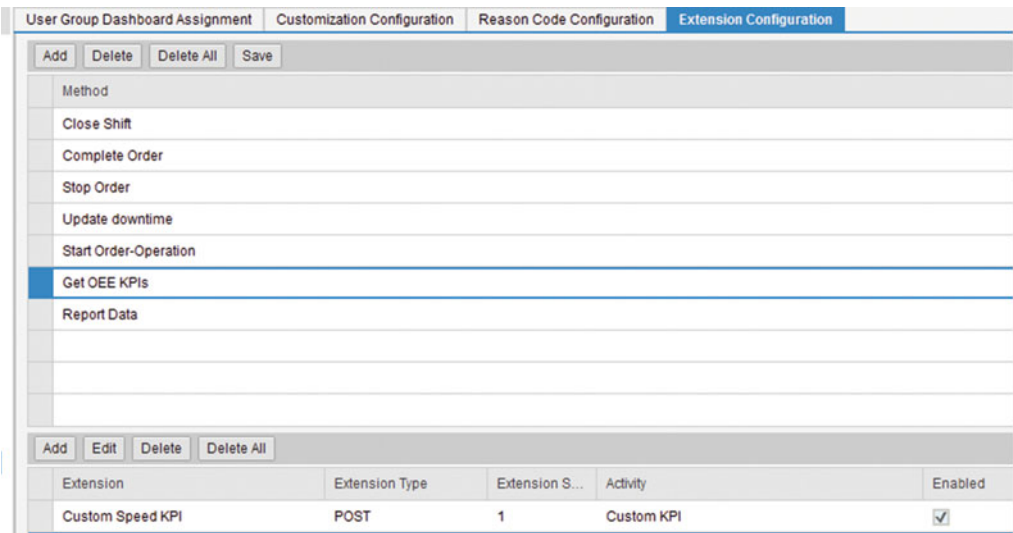

Figure 7-33. Configure custom transaction as a custom extension
10. Under Extension configuration, now configure a custom extension using the custom activity created to GetOEEKPI method. The extension type should be post while adding the extension. GetOEEKPI method provides with all the values of four standard KPIs and the inputs required for calculating these KPIs. These values can be used to calculate our custom KPI wherever applicable. For example the GetOEEKPI will provide you the Line Node ID, real time values of downtime and other order related data. Refer to Appendix for understanding the structure of this XML. Refer to Figure 7-33.